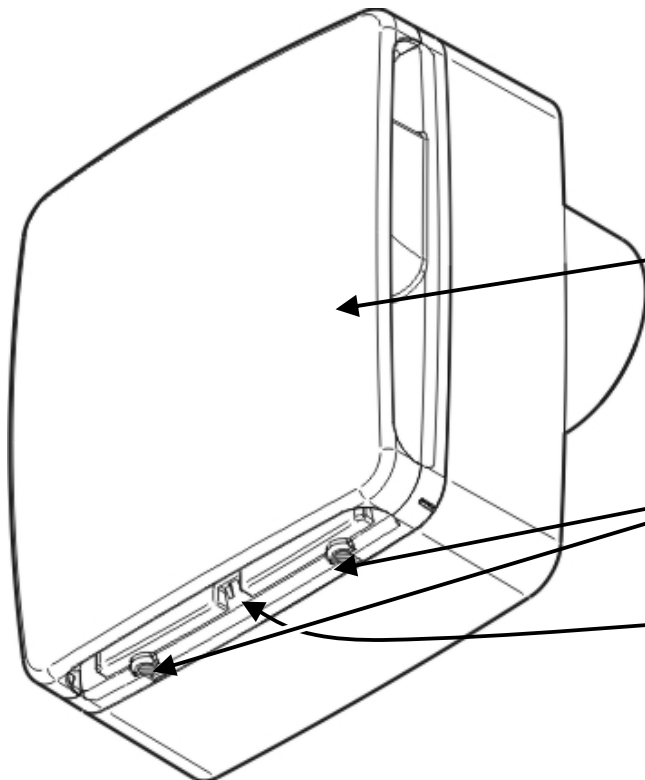

Fig.2.
1. Remove the Front Cover Assembly by slackening the 2 Cover Screws by 2 turns (*fig.2.*) Lift the Cover Assembly away from the bottom edge then the top edge.
1. Remove the Front Cover Assembly by slackening the 2 Cover Screws by 2 turns (*fig.2.*) Lift the front assembly away from the bottom edge then the top edge.
1. Remove the Front Assembly by slackening 2 Cover Screws by 2 turns (*fig.2*). Lift the front assembly away from the bottom edge then the top edge.
2. If you have a Filter (*fig.3*), remove it by using a small, flat bladed screwdriver to lift the bottom edge over the retaining edge (*fig.2*) and then slide the filter out.
3. Remove the Cover assembly by slackening the two cover screws (*fig.2*) by two turns and pull it away. The Quadra has a built in safety feature. The motor will not run if the small round magnet in the Cover is not detected (when the Cover is not fitted).